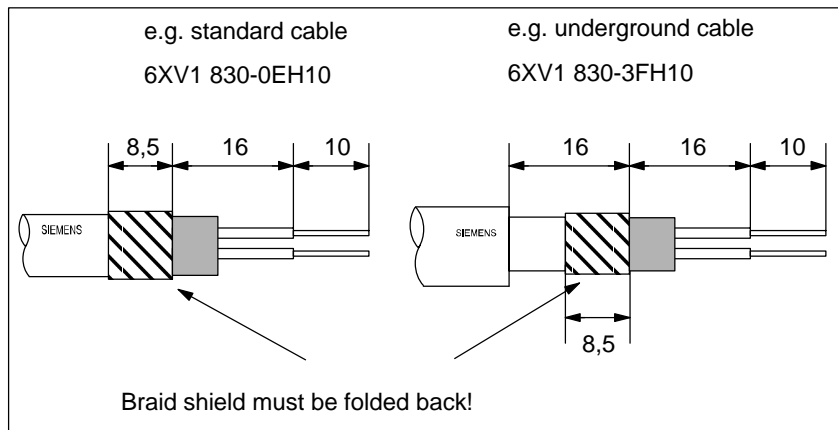

Figure 5-9 Stripping the Cable to Connect it to the RS-485 Repeater
2. Strip the insulation from the PROFIBUS cable as shown in Figure 5-9.